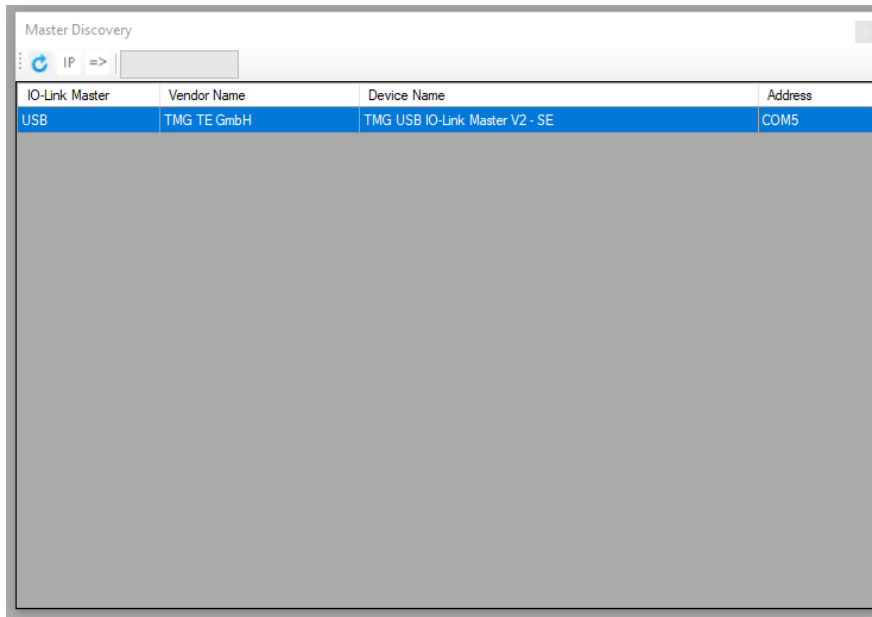

Figure 4. Master Discovery Window
- b. Select the correct IO-Link Master in the 'Master Discovery' window, with a double click, see Figure 4.